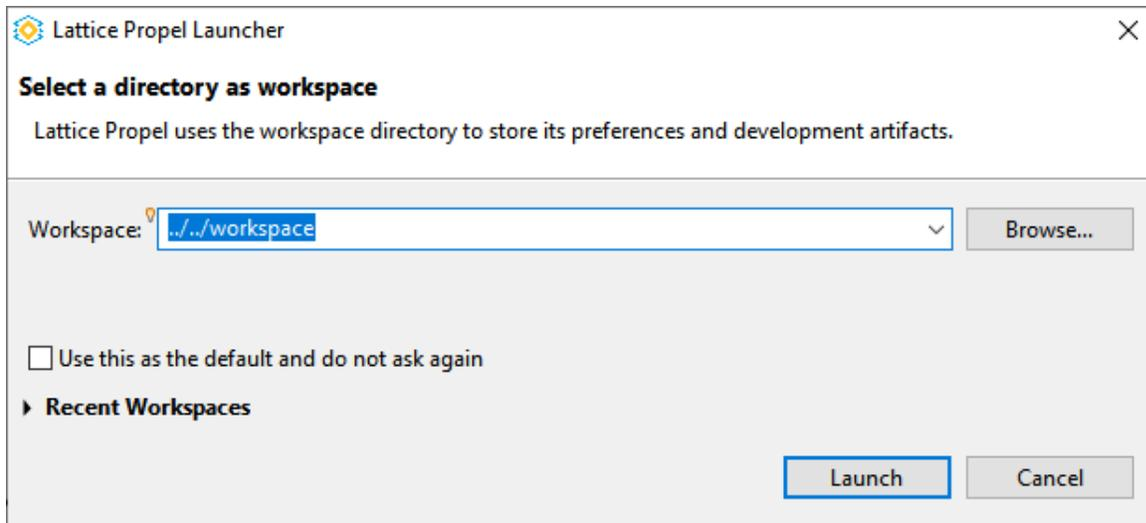

Figure 2.58. Lattice Propel Launcher Wizard
1. Click the **Run Propel** icon  from the Propel Builder GUI Toolbar. Lattice Propel Launcher (Figure 2.58) opens.